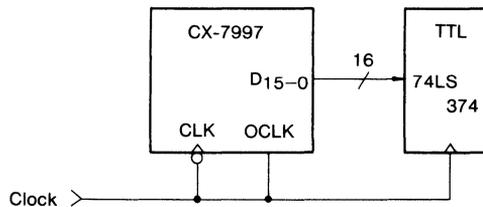

Fig. 5 External Device Interface (2)
- (ii) When the external device fetches data at the rising edge of clock (i.e. 74LS374) wire each connection as shown in Fig. 5.